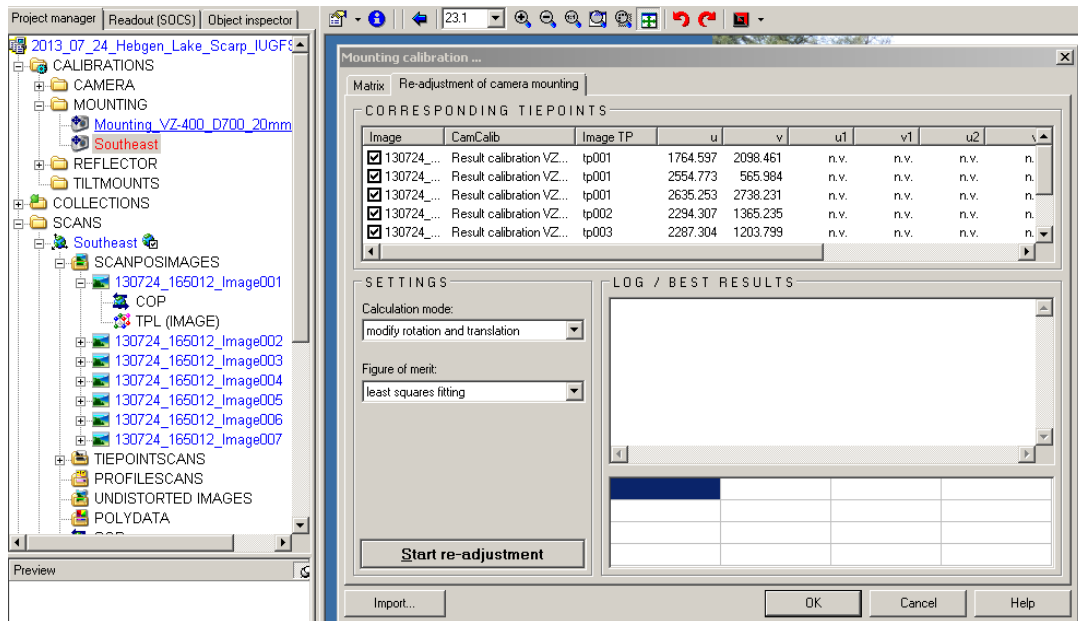

Figure 6. Window displaying the camera mounting re-adjustment parameters.
7.5. *Re-adjustment of Camera Mounting*: double click on the new camera-mounting file just created (and renamed) and the matrix window will reappear. Click on “Re-adjustment of Camera Mounting”. Under “Setting” → “Calculation mode”, select “modify rotation and translation” in the drop-down menu (Fig. 6).